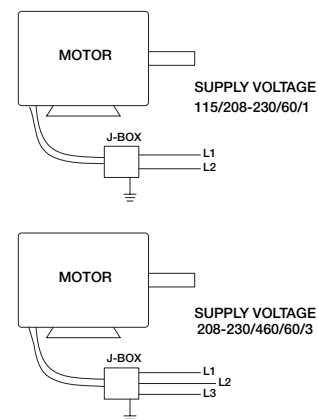

Figure 3 - Typical Wiring Diagram
NOTE: Refer to Figure 3 for connection wiring diagram.
6. Mount and wire safety disconnect switch either on the drive frame or outside on the curb cap and wire motor per wiring diagram on motor. Wire control switches at ground level. Refer back to Figure 3 for connection wiring diagram.